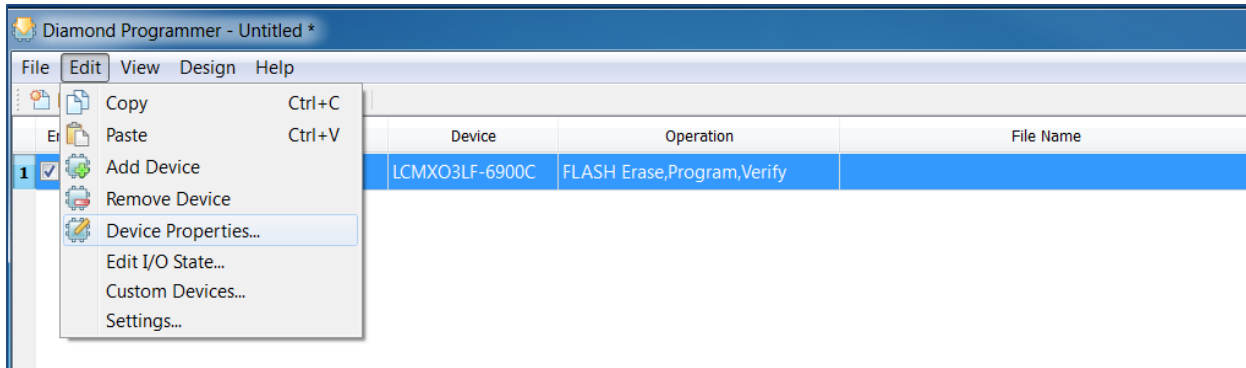

Figure 8.3. Device Properties
5. The device selected appears as LCMXO3LF-6900C. Click on the Device line so its gets highlighted in blue as shown in Figure 8.3.